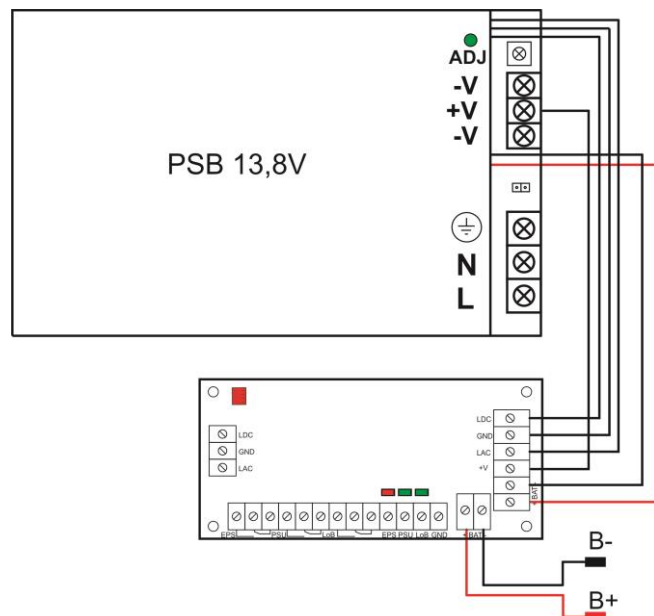

Fig.2. Diagram of connecting the module to the PSB power supply unit.
Technical outputs: - EPS; output indicating AC power failure - PSU; output indicating DC absence/PSU failure - LoB output indicating low battery voltage	<p>- relay type: 1A@ 30VDC/50VAC, time lag: approx. 10s. CAUTION! In Fig.2. the contact set in the potential-free status corresponds to a state with no AC power (AC power failure). - OC type, 50mA max., normal status: L (0V) level, failure: hi-Z level, time lag: 10s.</p> <p>- relay type: 1A@ 30VDC/50VAC CAUTION! In the Fig.2. the set of contacts indicates potential-free status of the relay which corresponds to the DC power absence (PSU failure). - OC type, 50mA max., normal status: L (0V) level, failure: hi-Z level</p> <p>- relay type: 1A@ 30VDC/50VAC CAUTION! In the Fig.2. the set of contacts indicates potential-free status of the relay which corresponds to a low battery level ($U_{BAT} < 11,5V$). - OC type, 50mA max., normal status: ($U_{BAT} > 11,5V$): L (0V), failure: ($U_{BAT} < 11,5V$): hi-Z level Module does not feature a battery detection function, in the case of no battery or non battery connected, the output is in the normal mode.</p>
3. Cut the BAT+, BAT- leads in the PSB 13,8V PSU, separate and connect to the module, following the diagram. (fig.2).